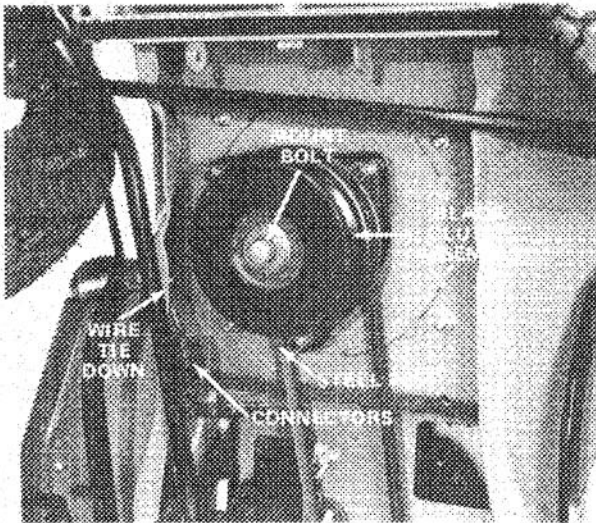

Figure 44
4. Disconnect the bolt retaining the wire tie down from the electromagnetic blade clutch. Disconnect the in-line wire connector (Fig. 44).
5. Remove the bolt securing the blade clutch assembly (Fig. 44) at the front of the machine and remove the assembly. Note how the clutch is prevented from rotating by a steel post welded to the underside of the tractor.